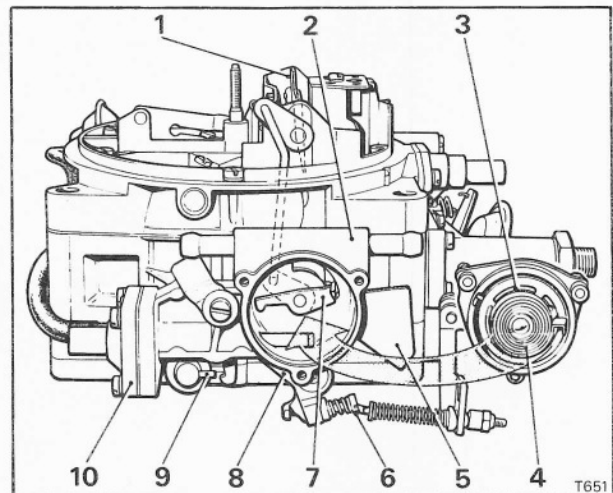

Fig. K50 Automatic choke mechanism
The bi-metal (item 4) of the automatic choke (see Fig. K50) is heated electrically (dependant upon the ignition being switched on) and by engine coolant (as the temperature of the engine coolant rises).
metal spring. This prevents an excessive enrichment of the starting mixture. Under these conditions, the high inlet manifold depression that is evident below the almost closed throttle butterflies, is transmitted via a hose to the choke pulldown diaphragm (see Fig. K50, item 10). As the diaphragm flexes a rod is moved against the bi-metal spring pressure and pulls the automatic choke intermediate lever so that the choke strangler valve is opened by a pre-set amount.
When the accelerator pedal has been fully depressed prior to cold starting, the stop lever (see Fig. K50, item 8) attached to the primary throttle spindle is in contact with the high step of the fast-idle cam.